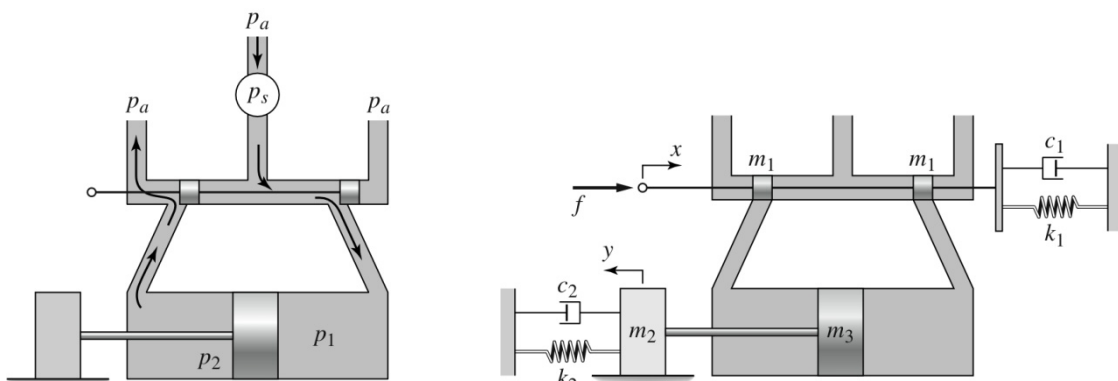

Fig. 5
5. An electric motor is sometimes used to move the spool valve of a hydraulic motor. In Figure 5. The force f is due to an electric motor acting through a rack-and-pinion gear. Develop a model of the system with the load displacement y as the output and the force f as the input. Consider two cases: (a) $m_1 = 0$ and (b) $m_1 \neq 0$